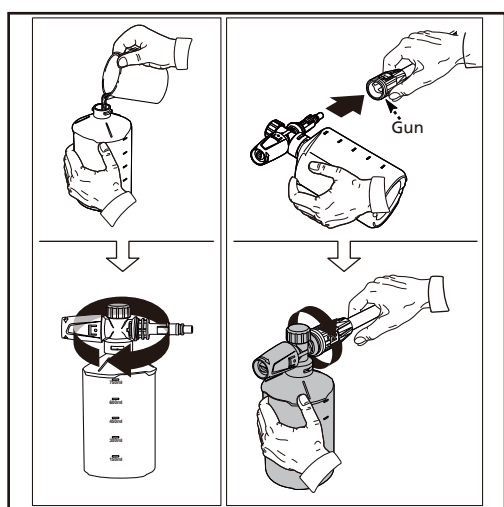
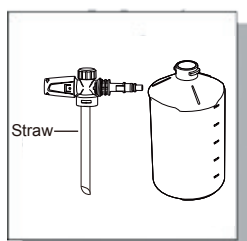

Fig.8
Fig. 9
- When using the detergent bottle, fill it with a properly formulated detergent or cleaner with water ratio according to instructions on the container (Fig. 8). The detergent bottle comes with a straw which is fitted into the screw-on top. If you don't see the straw, look inside the bottle and attach it to the screw-on top (Fig. 9).